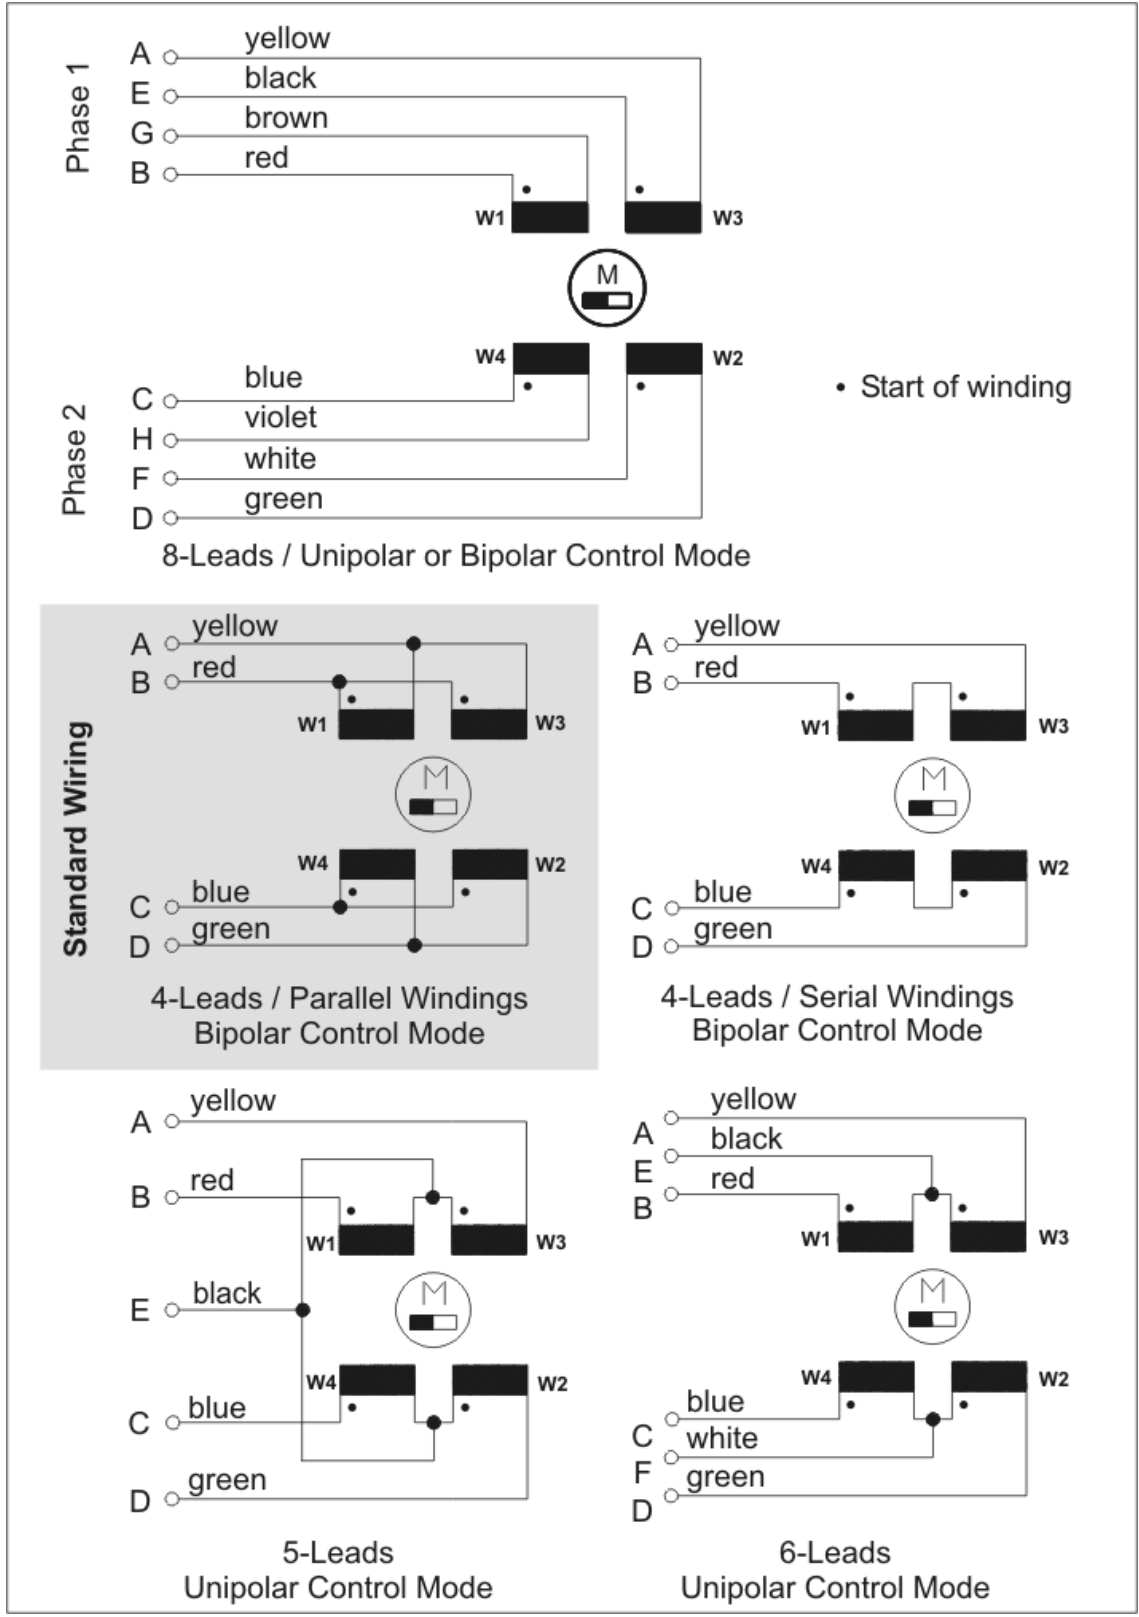

Fig. 5 : Connection schemes for Phytron stepper motors
8-leads stepper motors have two leads from each of the four motor windings (see Fig. 5, upper drawing). These motors can be driven by all types of control units in bipolar and unipolar operating modes.
4-leads stepper motors (windings parallel or serially connected, see Fig. 5, middle) are designed for bipolar operation mode.
5-lead or 6-lead stepper motors (Fig. 5, below) can be driven by unipolar control units.
- The leads of one motor phase, see Fig. 5, should be twisted pairs, e.g. A and B, C and D (4-lead motor).